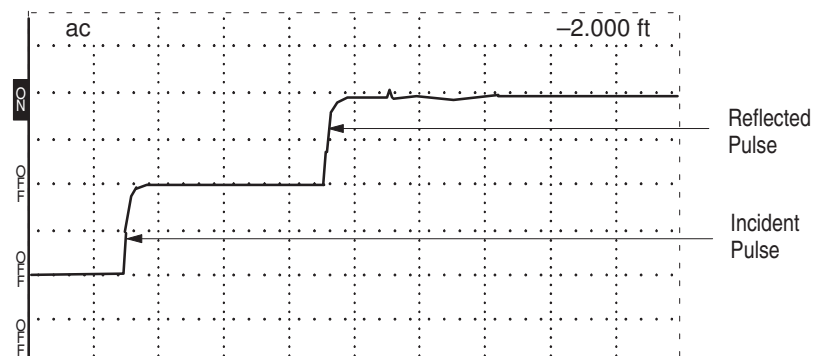

Figure 2–5: 3-foot Cable with Cursor at Far Left
3. The first (left) step is the incident pulse, as sent from the pulse generator (see Figure 2–5). The second step is the reflected pulse, as it bounces back from the end of the cable. The reflected pulse and the time between pulses provides the information needed for calculating the distance between faults or the end of the cable.